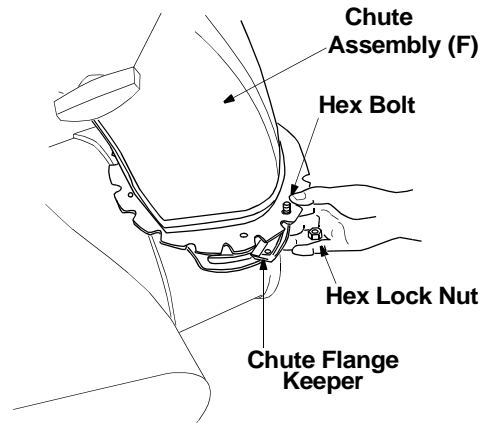

Figure 7
- Place chute assembly (F) over chute opening, with the opening in the chute assembly facing the front of the unit. Place chute flange keepers beneath lip of chute assembly, with the flat side of chute flange keeper facing downward.
- Insert hex bolt up through chute flange keeper and chute assembly as shown in Figure 7. Secure with hex lock nut. After assembling all three chute flange keepers, tighten all nuts and bolts securely. Do not overtighten.